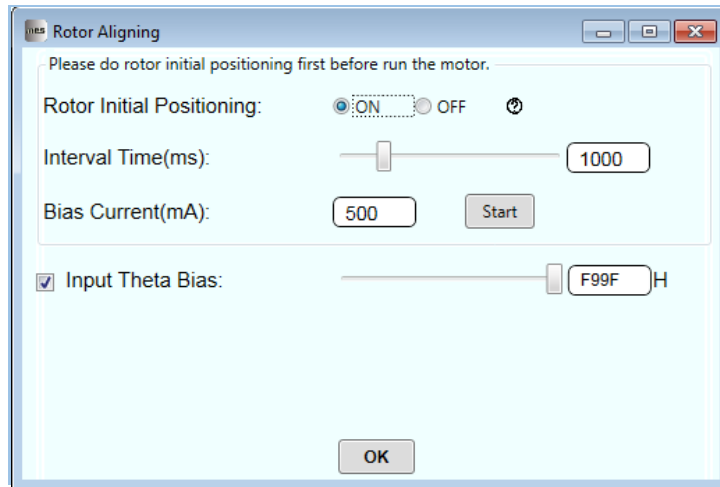

Figure 10: Rotor Aligning Window
- a. Navigate to the “Rotor Aligning” window from the home page (see Figure 10). Turn on the auto theta bias function.